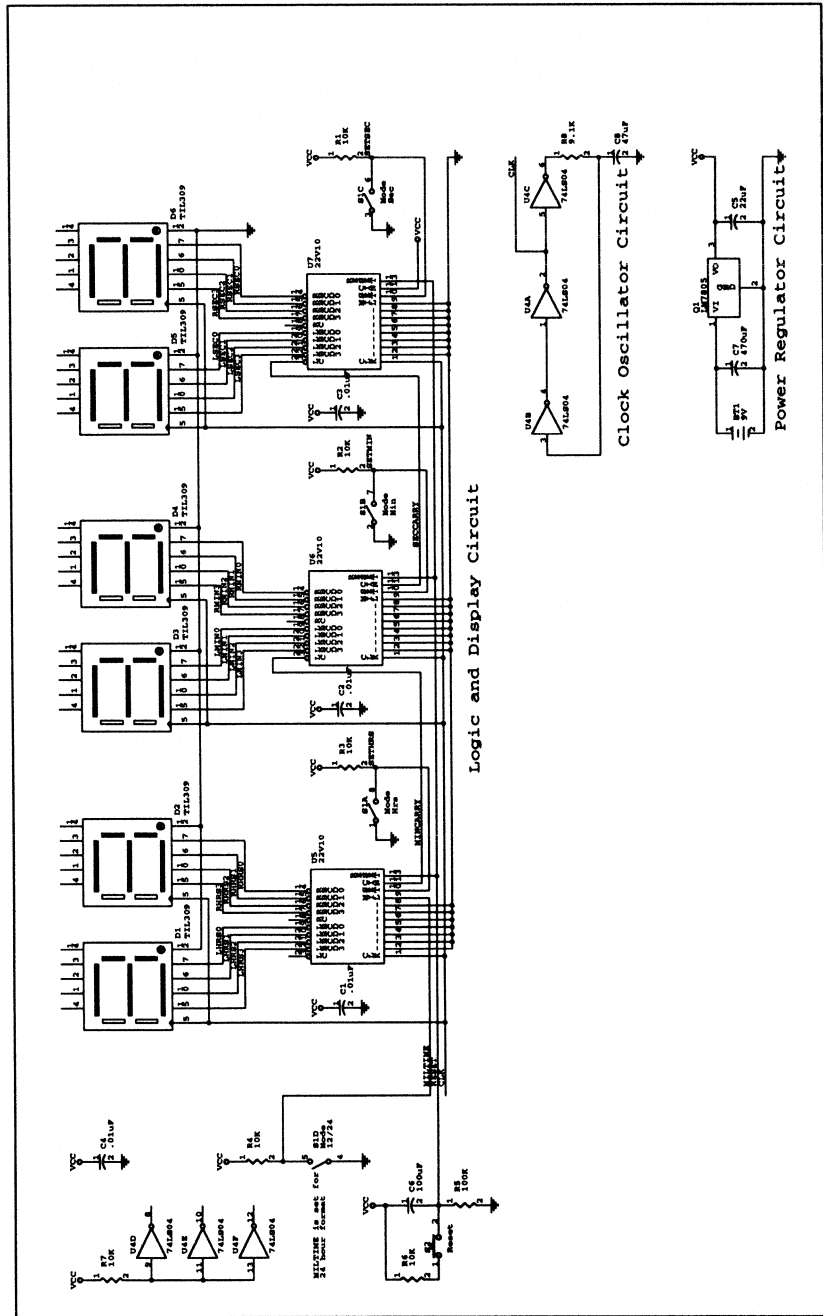

Figure 6-7. Completed TUTOR.SCH schematic.
Figure 6-7 shows how the schematic will look when you complete the remaining steps in this chapter.
Compare the schematic in figure 6-7 with the schematic you have captured so far. Notice that you need to add a few parts and draw a few more wires to have a functional circuit. You also need to edit the labels and other text in the schematic. The following sections describe how.
4. Using the same procedure as in steps 2 and 3, assign the values shown in figure 6-7 to the all parts on the schematic. Table 6-1 gives a list of the values to edit (you have already edited the first item in this table). Notice that some of the parts require that you enter information into the **1st Part Field**.
The clock signal from the clock oscillator circuit is now logically connected to the wire to which you attached the CLK label (figure 6-7).
4. The "Label?" prompt returns each time you place a label. Label the following wires: MILTIME, RESET, SETHRS, MINCARRY, SETMIN, SECCARRY, and SETSEC. Refer to figure 6-7 for the location of these wires. Press <Esc> to dismiss the "Label?" prompt.
3. Move the pointer to the bottom wire directly below the leftmost clock segment, and place the label as shown in figure 6-7.
7. See figure 6-7 and place labels for the remaining left displays (LMIN n and LSEC n) by repeating steps 1 through 5.
5. Move the pointer to the bottom wire for the right hours display, and place the label as shown in figure 6-7.
8. See figure 6-7 and place labels for the remaining right displays ($RMIN_n$ and $RSEC_n$) by repeating steps 3 through 7.
7. See figure 6-7 and place the text to the left of the 12/24 switch, at approximately (0.80, 6.10).
9. See figure 6-7 and place the text under the text you placed in step 7.